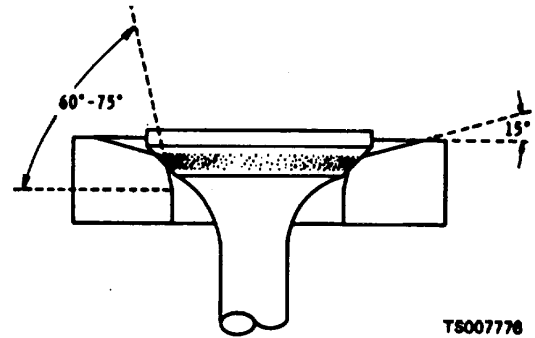

Figure 9-12. Narrowing Valve Seat.
j. After the valves and seats have been refaced and reground, coat the seat lightly with Prussian blue and drop the valve into place oscillating it slightly to transfer the blue pattern to the valve face. This should show a contact width of 1/16 to 3/32 inch, and should fall well within the width of the valve face, leaving at least 1/64 inch on either side of the contact area. If the contact area is greater than 3/32 inch, narrow the contact area by grinding the outside diameter of the seat with a 15° stone or by grinding the inside diameter of the seat with a 60° or 76° stone (fig. 9-12). After the seat area is corrected, touch the seat lightly with the original grinding stone to remove the burred or feathered edge.